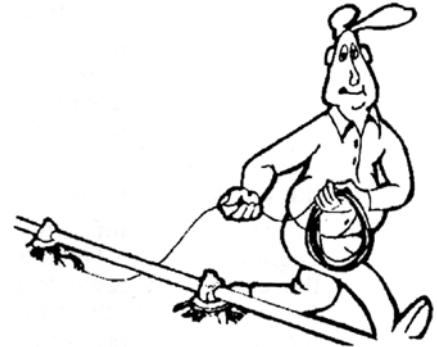

Figure 52. Unrolling Cable
6. Unroll the bulk anti-roost cable. Note: If the cable is unrolled as shown in **Figure 52.**, taking 5 loops of the coil with one hand, then changing hands to remove 5 loops as it is unrolled, it will lie flat during installation.